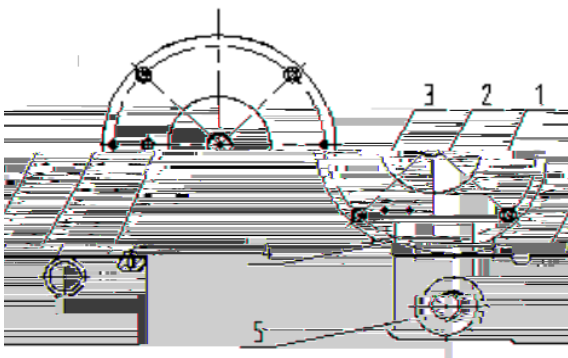

Fig. 1.1
Loosen item 1 four screws in fig. 1.1,remove the item 2 cover, remove the item 3 brake power line and micro switch line from the terminal, and remove the item 4 four bolts, the brake can be removed from item 5 brake mounting bracket.